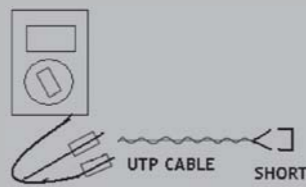

Fig. 1: Loop Resistances measurements
- a 、 Short the two conductors at the far end (refer to Fig.1)
- b 、 Measure the Loop resistance by an ohms meter (refer to Fig.1 and Table1)